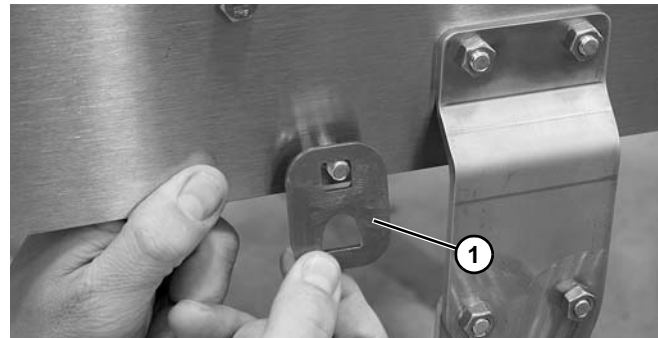

Figure 24
2. Install return bracket (**Figure 24, item 1**).